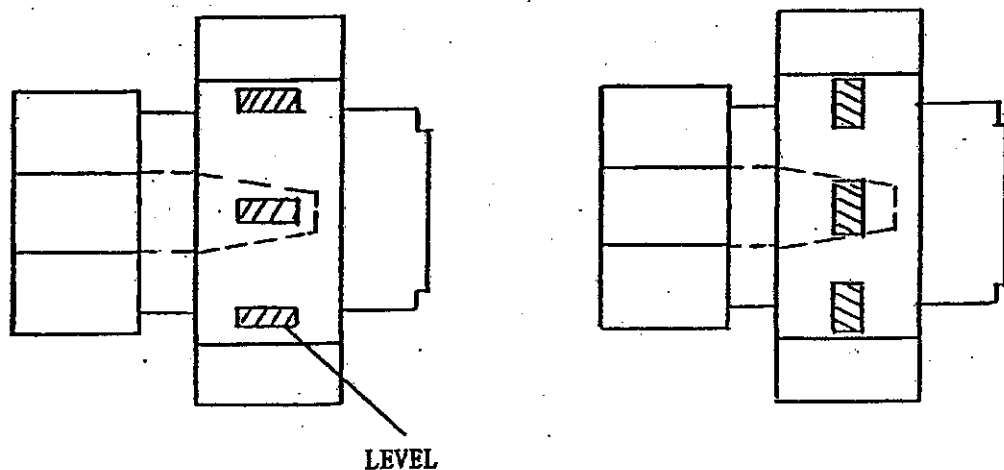

FIG3-2
- (5) The accuracy of the level must be 0.02mm per 1000mm.
- (6) Level the machine using jack bolt. Examine level at center and both ends of table as shown in fig3-2.
- (7) After completing adjustment of level, tighten the foundation bolts securely.